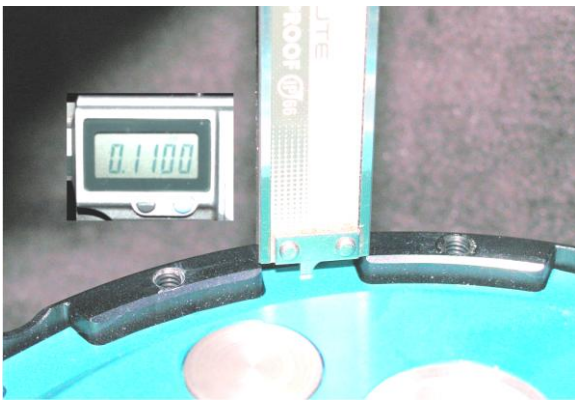
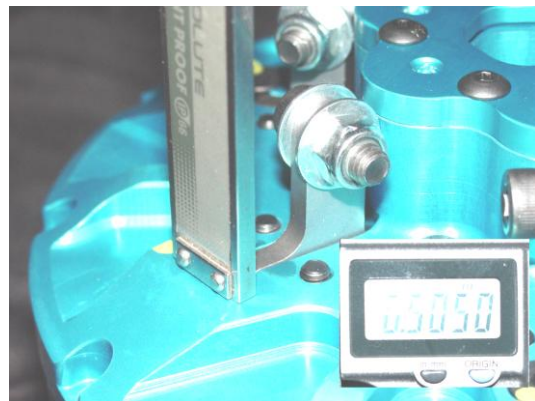

Fig. 1
Fig. 2
- C. Replace the hardened steel spacer that goes between the face of the clutch basket and the inner hub with the three (3) piece needle bearing spacer supplied with your unit. **Make sure the needle bearing faces the clutch basket and the large thrust washer contacts the inner hub.** Install the Gen II modified inner stock hub. Tighten the locking nut to the factory specification. Check to make sure you have the correct end play on your basket after tightening. If you don't have .003 to .006" end play clearance, the inner hub will not rotate when the nut on the input shaft is tight. If the basket has too much end play, it could cause damage to the clutch or engine.
- F. Insert the pressure plate on top of the last fiber. The height from the top of the tang on the pressure plate to the top of the basket should be between 0.110"-0.120" (See Fig.1). This will give you an air gap below your arms to the buttons between 0.110"-0.120".
- G. Place the hat assembly on the basket and tighten the twelve (12) allen head cap screws to secure it.
- H. The air gap between the arms and the pressure plate buttons can be measured using the thin bottom section of a caliper. Stick the caliper rod into the slot opening just behind the arm (See Fig. 2) until it hits the top of the button on the pressure plate. Take a height reading to the top of the Gen II hat, this reading should be between 0.490"-0.510". This gives an air gap of 0.100"-0.120". It is better to start with an air gap of 0.100" to compensate for clutch wear. This technique can be used to maintain the air gap, after repeated runs, without removing any part of the clutch.